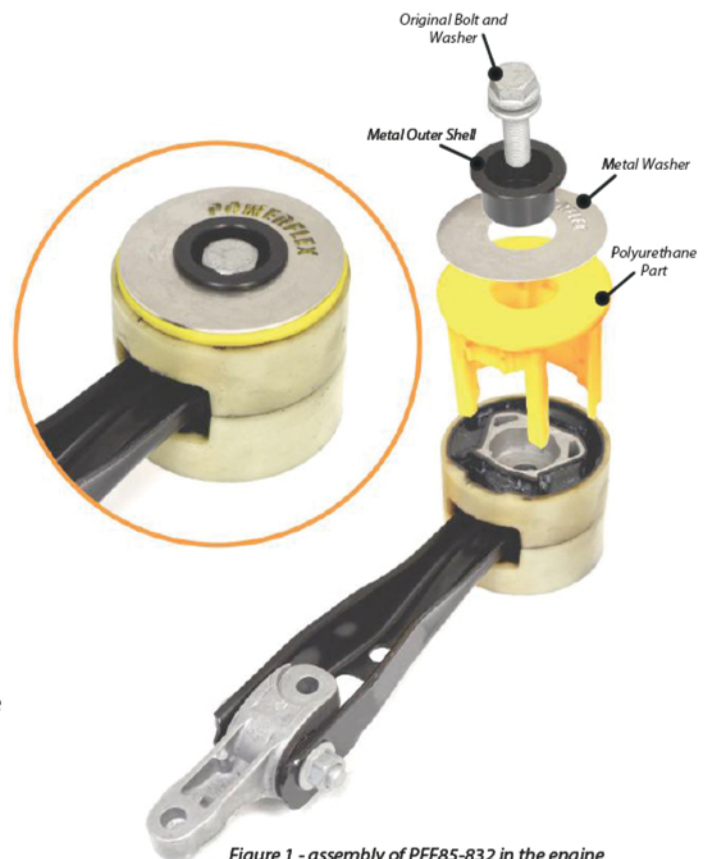

Figure 1 - assembly of PFF85-832 in the engine mount
4. Slide the new PU insert into the voids of the rubber bush, as shown in Figure 1.
5. Position the supplied washer on top of the PU insert. Push the supplied sleeve into the bore of the washer, as shown in Figure 1.
6. Use the original bolt and small washer to secure the PU insert kit into the rubber engine mount, as shown in Figure 1.